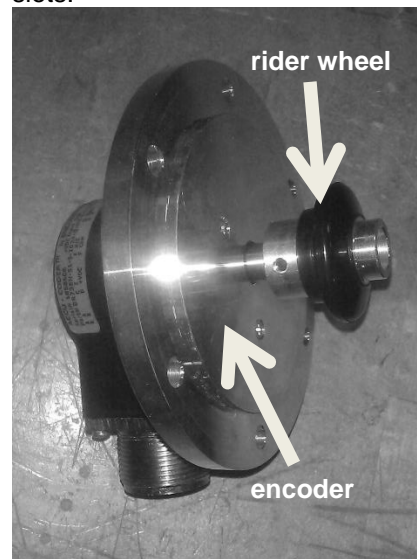

Figure 4: Incremental Encoder with the rider wheel fitted on shaft
1. The rider wheel should be tightly fitted on the incremental encoder's shaft as shown in Figure 4 with 2mm allen key (or a Philips head screw driver depending on the wheel type). It should be positioned so that the wheel will sit on the center of the exposed edge of the rotor. **NOTE:** if the